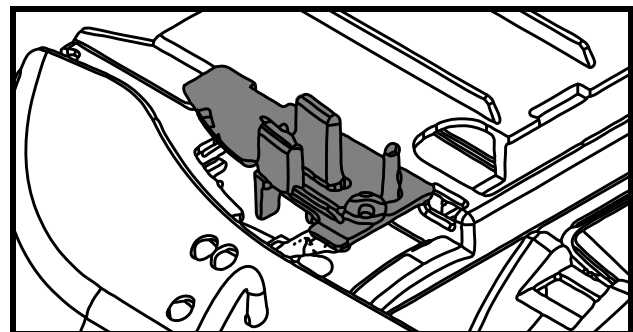

Fig. 5
- 7) Remove the alternate up/down buttons (see Fig. 5).